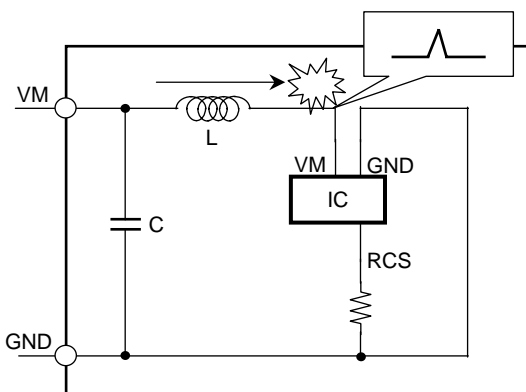

Fig. 4 Deprecated PCB
A high current flows into the line between the VM1 (Pin 1) and VM2 (Pin 15) pins. Therefore, noise is generated with ease at the time of switching due to the inductance (L) of the line, which may result in the malfunctioning or destruction of the LSI. (Fig. 4)